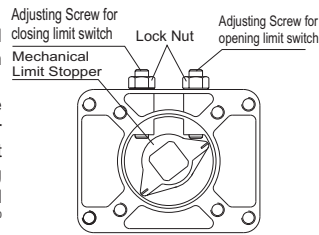

Fig.8
3.Adjustment of Mechanical Limiting Stopper (Fig. 8, 9)
①Drive the valve to the Full- Close Position by handle and make the Full-close position micro-switch (K1) move (When the limit switch moves, you can hear a sound of “click”).
②Loosen the lock nut on the right side and turn clockwise the adjusting screw for closing limit-switch by means of inner hexagon spanner and make the adjusting screw to contact with the mechanical stopper, and then turn back the adjusting screw anti-clockwise for half of ring, make the mechanical limit-switch at the Full-close position be delayed with 2.5° angle distance to the electric limit-switch and then fasten the lock nut.
③Use the same method to make the adjustment of Full-open position mechanical limit-switch (on left side).